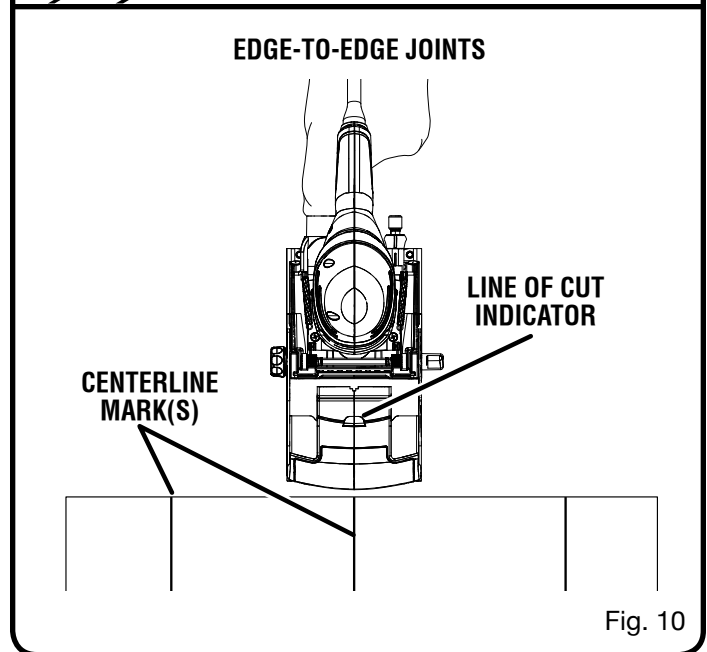

Fig. 10
- Finally, disassemble the workpieces and place a bead of glue in each slot. Also, spread a bead of glue over the entire surface of the joint. Reinsert the biscuits and assemble the workpieces as shown in figure 10.